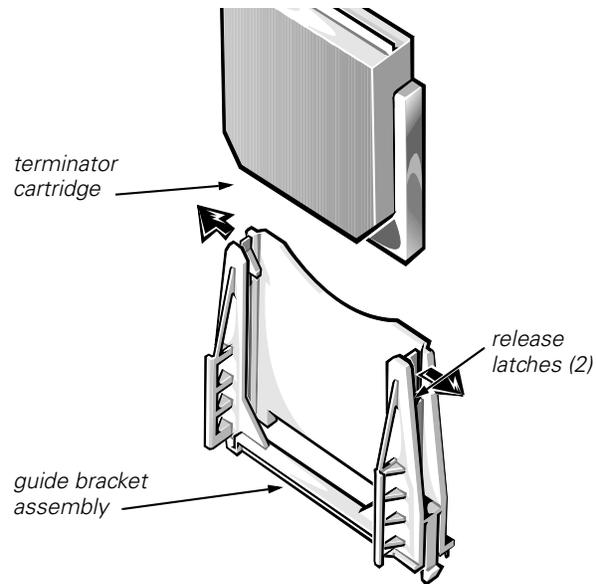

Figure 4-24. Terminator Cartridge Removal
- 2. Press outward on the two SEC cartridge release latches until they snap into the open position (see Figure 4-24).**
To install a terminator cartridge, make sure the cartridge release latches are in the open position, orient the terminator cartridge in the guide bracket assembly as shown in Figure 4-24, seat it firmly, and then snap the release latches back into place.